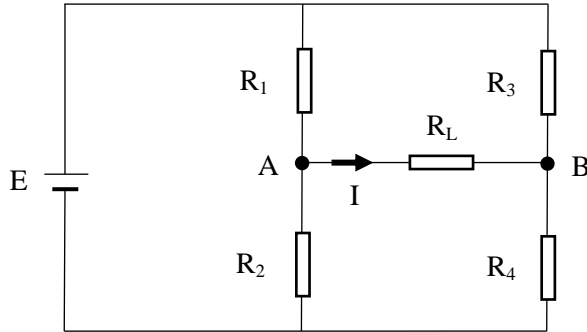

Figure 3.3. Original circuit.
- 1- Assemble the circuit as shown in the figure 3.3.